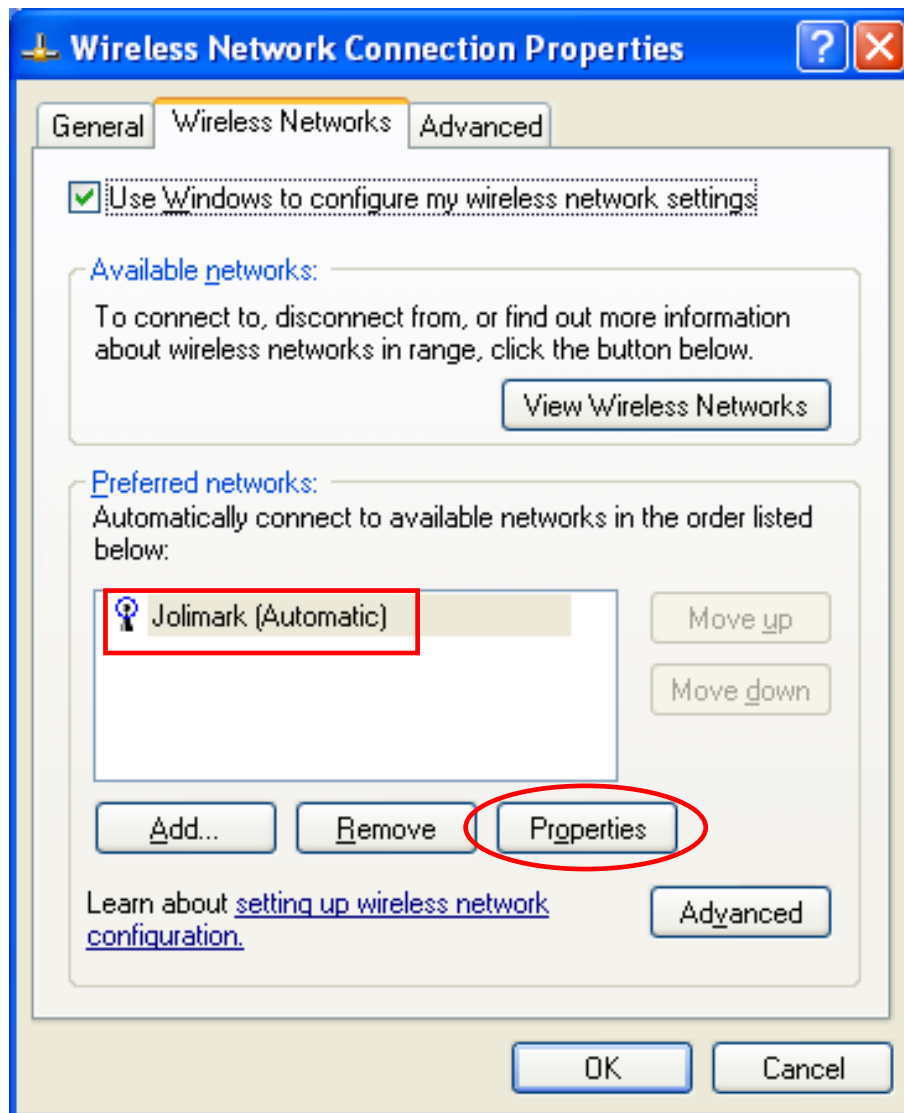

Figure 11
- ④ Select the current wireless network name in “Preferred networks” and then click “Properties” (as shown in Figure 11).